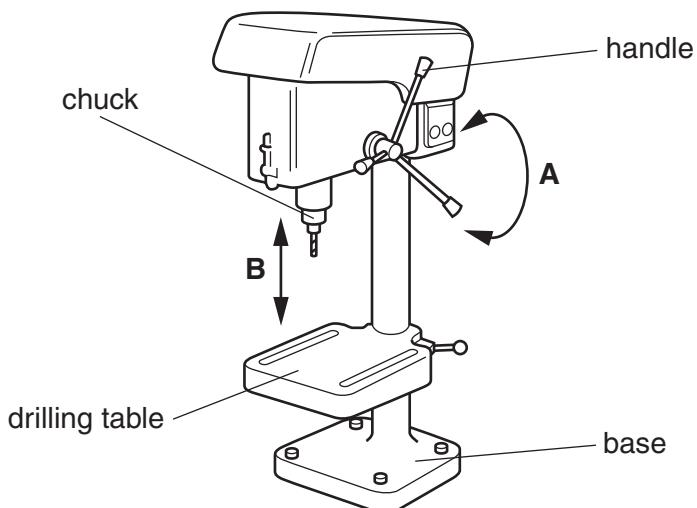

Fig. 3
- (c) Fig. 3 shows a bench drilling machine.
- (ii) The handle is used to move the chuck up and down as shown in Fig. 3.
State the types of motion shown by arrows **A** and **B** in Fig. 3.